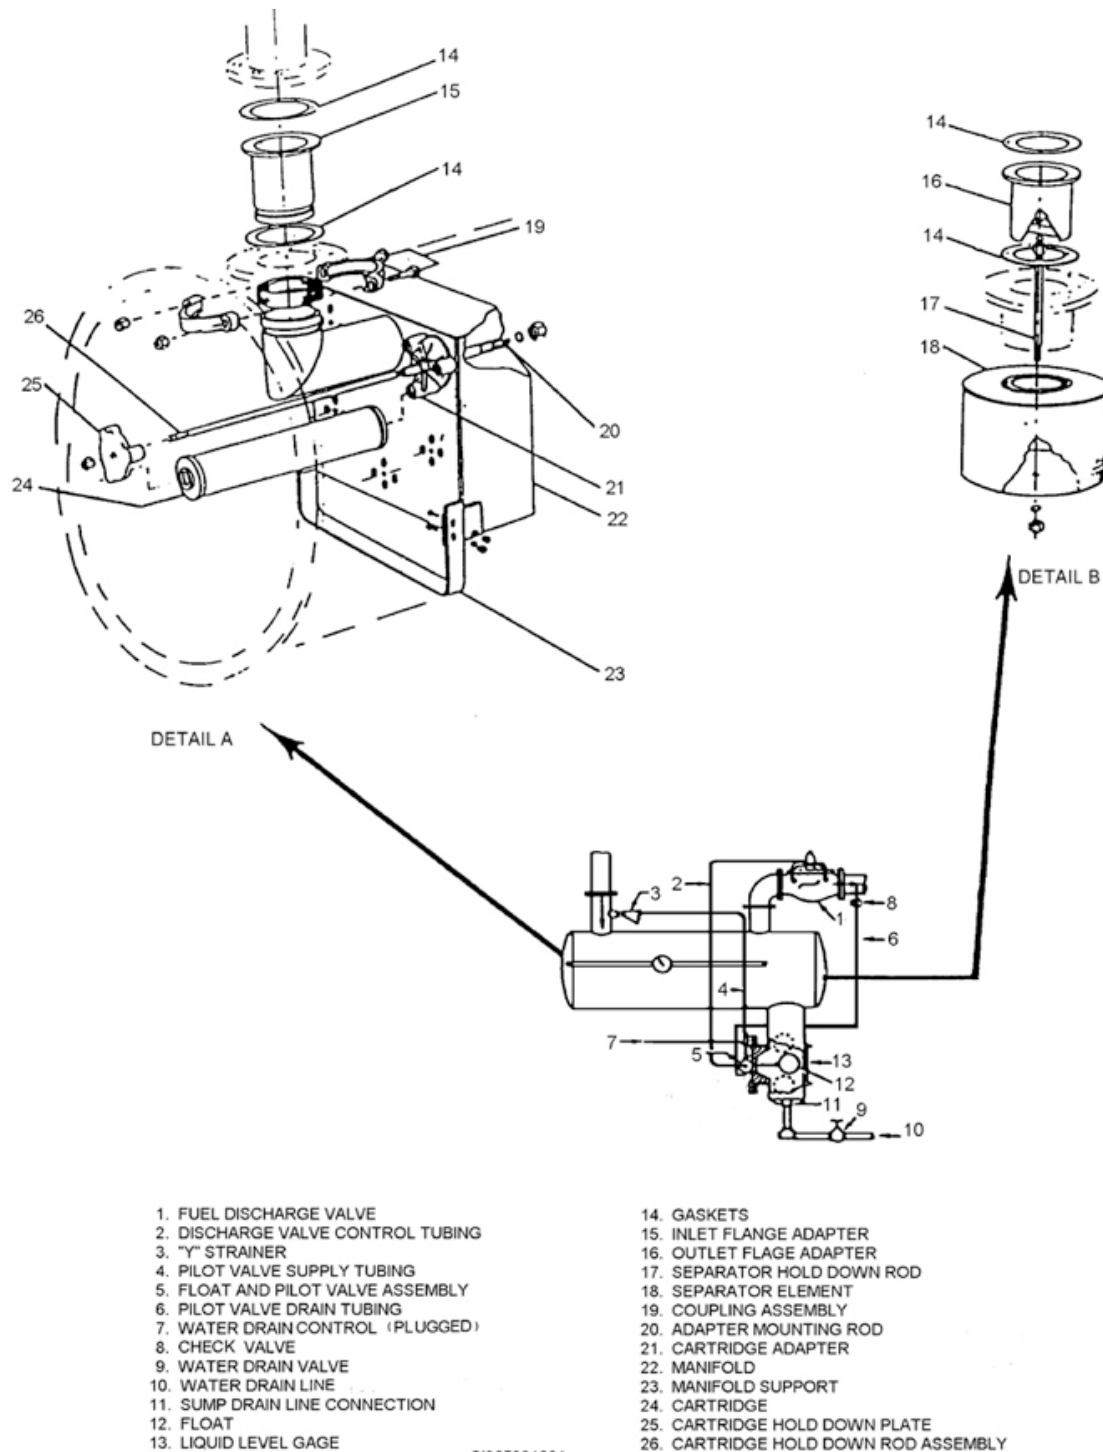

Figure 2-1. MILSPEC HFS.
A MILSPEC F/S is just a unit built to military specifications and used across all services. This makes it easier to order parts and keeps everything uniform. The basic components of the MILSPEC horizontal filter/separator (HFS) are listed in the table below and shown in figure 2-1:
The latest modification to the MILSPEC HFS is shown in figure 2-1. As you look at these modifications, you also see these additional components: (14) gaskets, (15) inlet flange adapter, (16) outlet flange adapter, (17) separator hold-down rod, (18) separator element, (19) coupling assembly,
(20) adapter mounting rod, (21) cartridge adapter, (22) manifold, (23) manifold support, (24) cartridge, (25) cartridge hold-down plate, and (26) cartridge hold-down rod assembly.